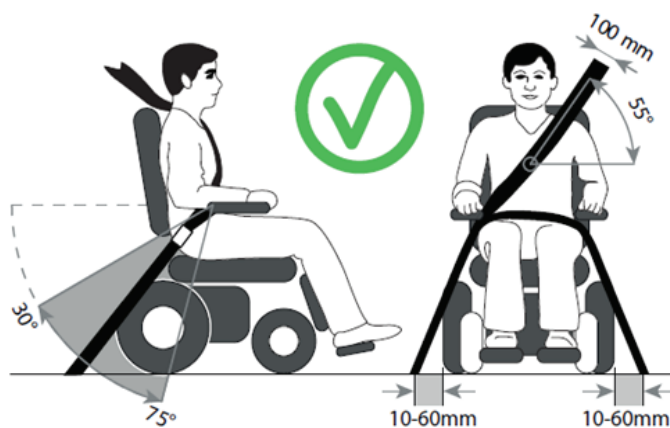

Figure 16. Correct Restraint
- The pelvic restraint belt must be worn low across the front of the pelvis so that the angle of the pelvic belt is within the zone of 30° to 75° to the horizontal. A steeper (greater) angle within the preferred zone, 45° to 75° is desirable i.e. closer to, but never exceeding 75°. The upper torso restraint belt must fit over the midpoint of shoulder and across the chest as illustrated. **See figure 16.**
When utilizing DAHL docking equipment, any wheelchair anchored postural supports (lap straps, lap belts) should not be used or relied on for occupant restraint in a moving vehicle, regardless of whether they are labeled ISO 7176-19 or SAE J2249. Use a vehicle anchored and certified occupant restraint system instead. **See figure 16.**